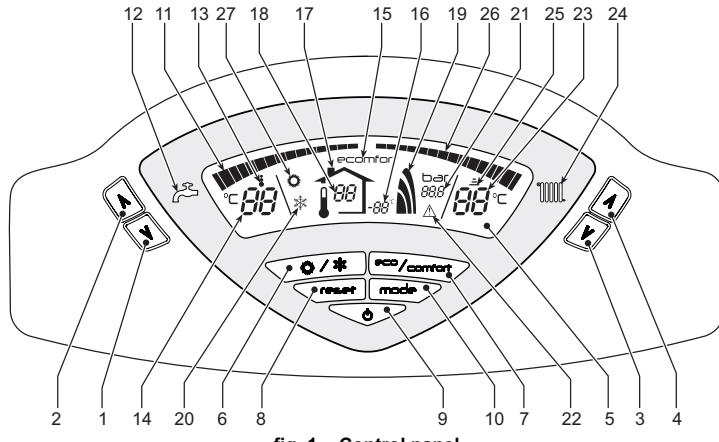

fig. 1 - Control panel
A heating demand (generated by the Room Thermostat or Remote Timer Control) is indicated by flashing of the symbol **Heating Mode** (detail 25 - fig. 1).
The heating graduation marks (detail 26 - fig. 1) light up as the heating sensor temperature reaches the set value.
A DHW demand (generated by drawing domestic hot water) is indicated by flashing of the symbol **DHW Mode** (detail 13 - fig. 1). Make sure the Comfort function (detail 15 - fig. 1) is activated
The DHW graduation marks (detail 11 - fig. 1) light up as the DHW sensor temperature reaches the set value.
When hot water tank heating is activated (default setting), the COMFORT symbol (detail 15 - fig. 1) is activated on the display, and when off, the ECO symbol (detail 15 - fig. 1) is activated on the display
The hot water tank can be deactivated by the user (ECO mode) by pressing the eco/comfortfig. 1 button (detail 7 -). To activate the COMFORT mode, press the eco/comfort button (detail 7 -)fig. 1 again.
Press the **on/off** button (detail 9 - fig. 1) for 1 second.
To relight the boiler, press the **on/off** button (detail 9 fig. 1) again for 1 second.
- Press the ON/OFF button (9 - fig. 1)
Press the **summer/winter** button (detail 6 - fig. 1) for 1 second.
The display activates the Summer symbol (detail 27 - fig. 1): the boiler will only deliver domestic hot water. The antifreeze system remains activated.
To deactivate the Summer mode, press the **Summer/Winter** button (detail 6 - fig. 1) again for 1 second.
Use the **heating buttons** (detail 3 and 4 - fig. 1) to adjust the temperature from a min. of 30°C to a max. of 85°C.
Use the **DHW buttons** (details 1 and 2 - fig. 1) to adjust the temperature from a min. of 10°C to a max. of 65°C.
When the optional external probe is installed the control panel display (detail 5 - fig. 1) shows the actual outside temperature read by the probe. The boiler control system works with "Sliding Temperature". In this mode, the heating system temperature is controlled according to the outside weather conditions, in order to ensure high comfort and energy efficiency during the entire period of the year. In particular, as the outside temperature increases the system delivery temperature decreases according to a specific "compensation curve".
With Sliding Temperature adjustment, the temperature set with the **heating buttons** (details 3 and 4 - fig. 1) becomes the maximum system delivery temperature. It is advisable to set a maximum value to allow system adjustment throughout its useful operating range.